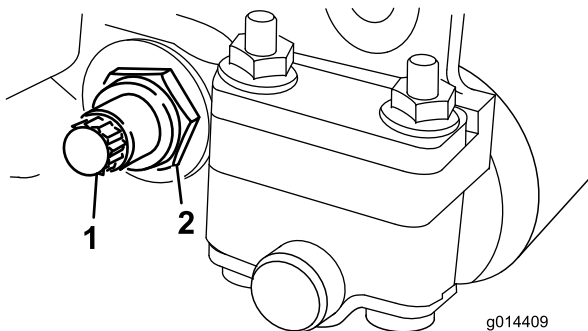
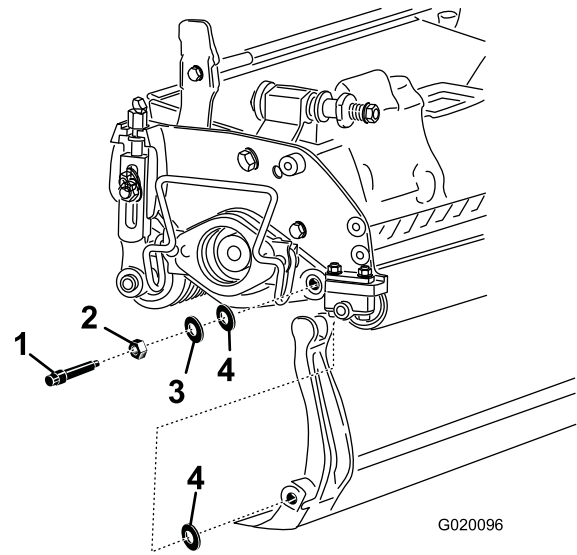

Figure 14
Figure 15
3. On each side of the machine, loosen the locknut securing the bedbar bolt (Figure 14).
4. Remove each bedbar bolt allowing the bedbar to be pulled downward and removed from the machine bolt (Figure 14). Account for the two nylon and one stamped steel washers on each end of the bedbar (Figure 15).
2. Secure the bedbar to each side plate with 2 bedbar bolts, locknuts (nuts on bolts), and 6 washers. Position a nylon washer on each side of the side plate boss. Place a steel washer outside of the outer nylon washer (Figure 15).